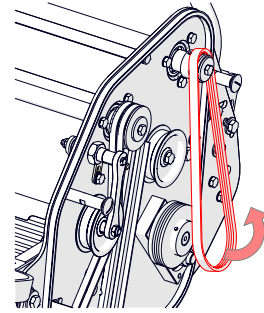

Fig. 13I - Remove and replace the belt.
- ii. Hold the tensioner pulley away. Remove the belt and replace (if required) (Fig. 13I).